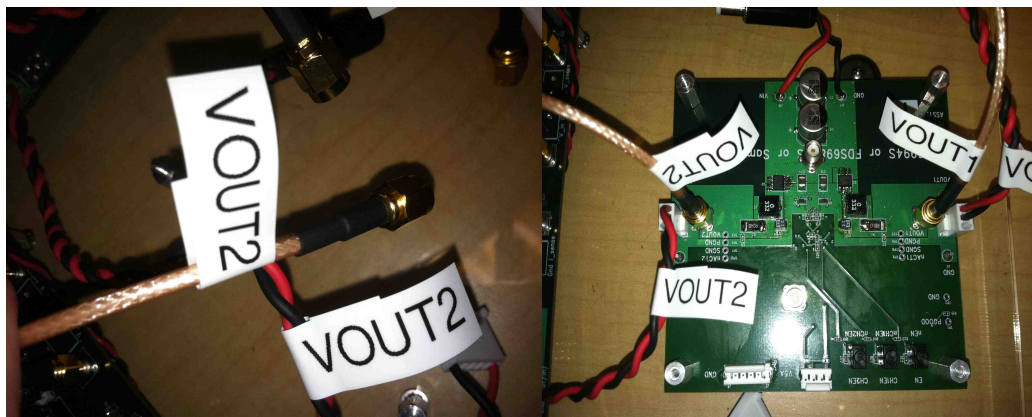

Figure 2.
Step 2: Connect the sma jack and 3 pin connector labeled VOUT2 to your sma connector and 3 pin header labeled VOUT2 as seen in figure 2: